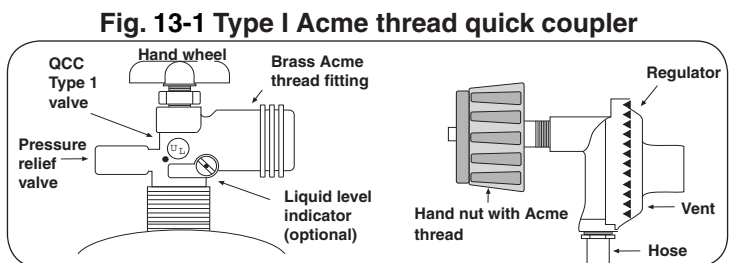

Fig. 13-1 Type I Acme thread quick coupler
- The pressure regulator and hose assembly (Fig. 13-1) supplied with this outdoor-cooking gas appliance must be used. Original and replacement pressure regulator and hose assemblies must be those specified by the manufacturer for connection with a cylinder connecting device identified as Type I by the *ANSI Z 21.58-2005/CGA 1.6-2005* (see PARTS LIST for ordering information).
To disconnect: Turn the hand nut counterclockwise until detached (Fig. 13-1).